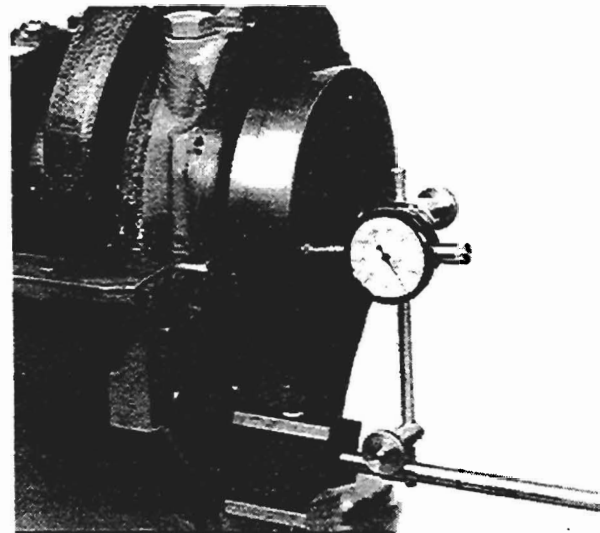

Fig. J4
7. Tighten the main bearing setscrews to the torque given on page C3. Check crankshaft end clearance (see fig. J4).